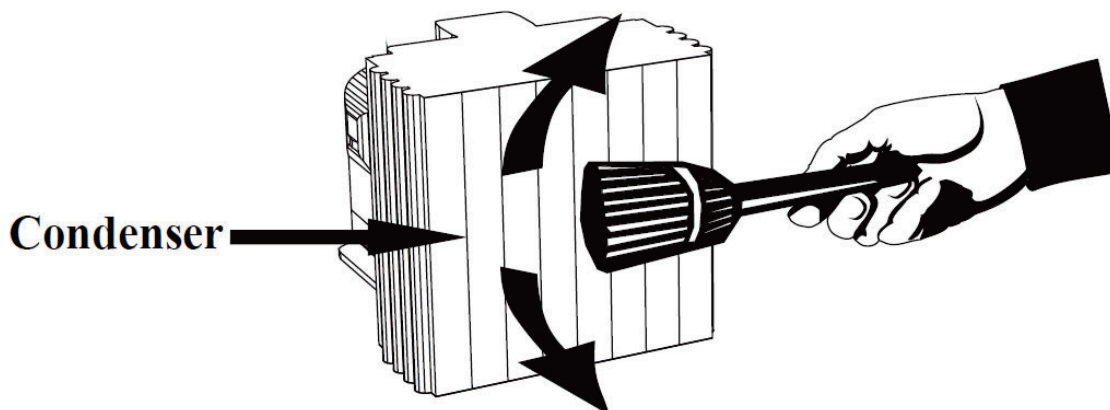

Fig. 7
5. Clean the condenser at least once a month or when dirty. The method for cleaning the condenser is shown on Fig 7.
Clean the condenser thoroughly after removing the cover with a vacuum cleaner, brush, or compressed air (Fig.7)